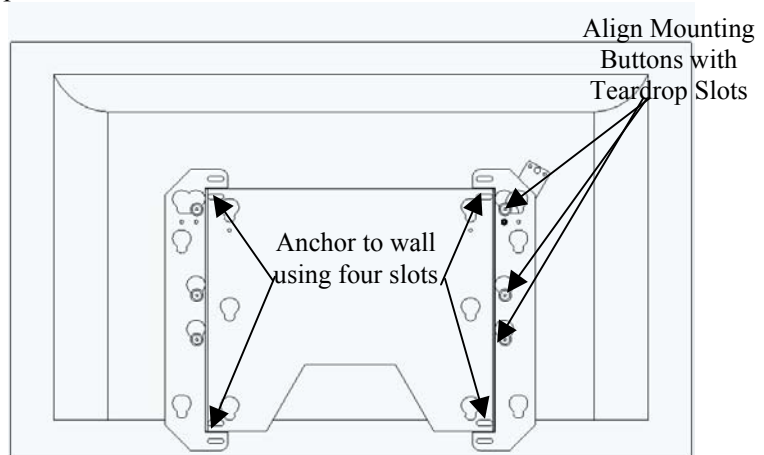

Figure 13
6. With the aid of another person, lift the plasma display up to the mount, align the mounting buttons on the plasma with the teardrop slots in the mount, and set the plasma into place (see Figure 13).